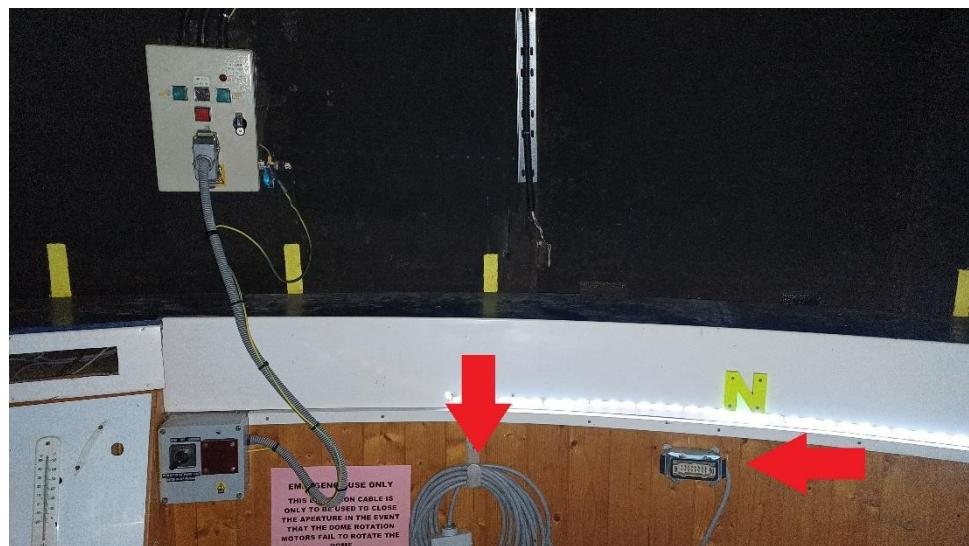

Fig. 30: Emergency Dome Control Cable and fixed wall multipin socket
**ENSURE** the Control Panel Switch Box rotary switch is **OFF** (fig. 14). **TAKE** the grey chunky plug (should be unplugged and loose) from the Control Panel Switch Box (adjacent the control panel) and **PLUG** it into the multipin socket on the wall under "N" (arrowed red in fig. 30 below) on the peripheral dome wall.